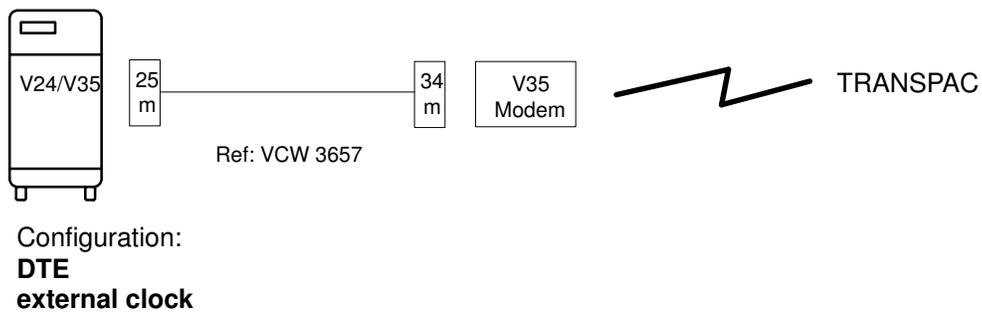

Figure 50. V24/V35 Connection to TRANSPAC Network
- Connection to the French TRANSPAC Network, see figure 50,